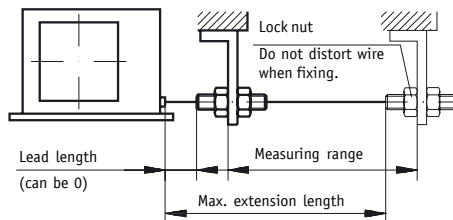

Fig. 2 : Extension length check
- After mounting, check that the maximum extension length complies with the application (fig. 2).
To avoid damage to the wire outlet and to ensure the unit's maximum life, the wire must be extended co-axially to the wire outlet (fig. 2).